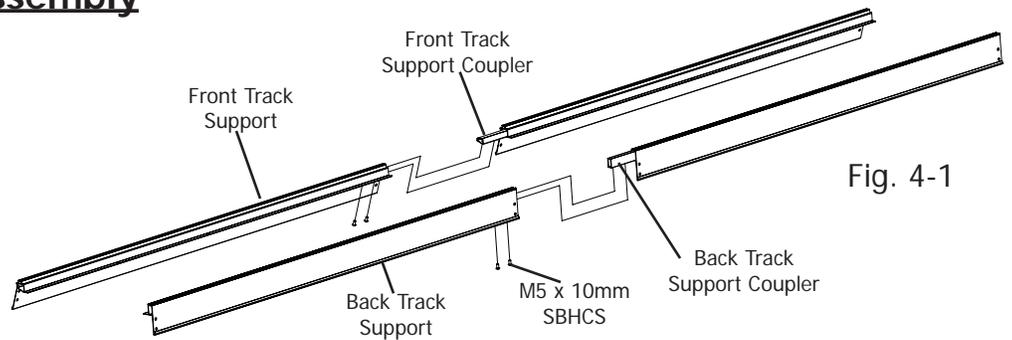
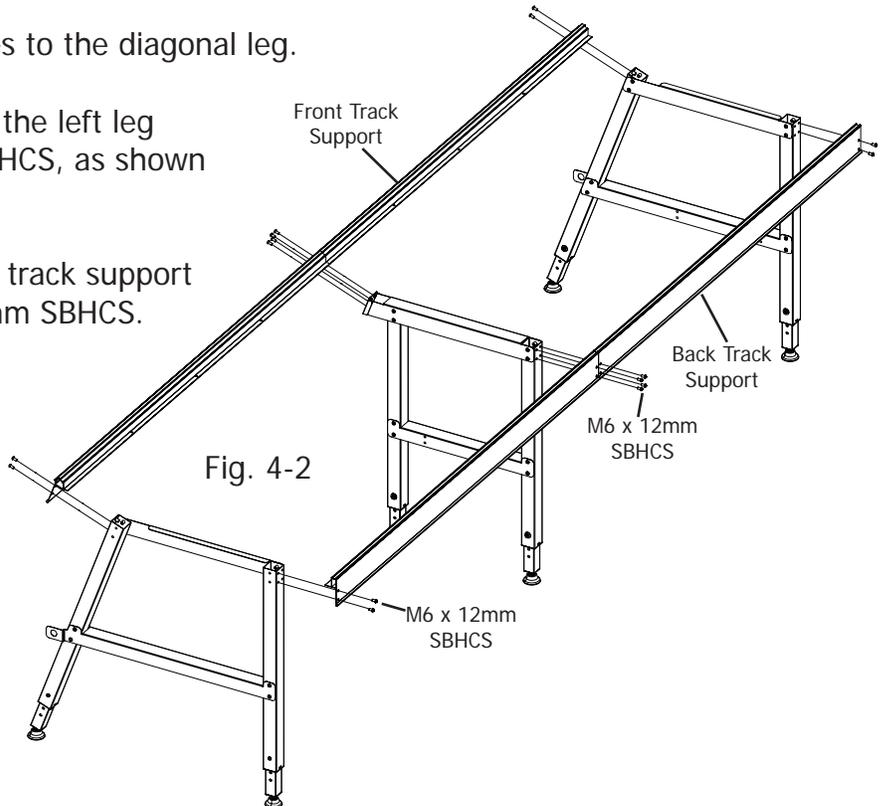

Fig. 4-1
Fig. 4-2
- ⚙️ **4-2:** Slide the front track support coupler into the end of one track support with the two holes near the end. Tighten two (2) M5 x 10mm SBHCS into the coupler through the track support, as shown in Fig. 4-1.
- ⚙️ **4-3:** Slide the other front track support onto the coupler and tighten two (2) M5 x 10mm SBHCS into the coupler through the track support.
- ⚙️ **4-5:** Attach the front track support to the left leg assembly with two (2) M6 x 12mm SBHCS, as shown in Fig. 4-2.
- ⚙️ **4-6:** Attach the other end of the front track support to the right leg with two (2) M6 x 12mm SBHCS.
- ⚙️ **4-7:** Tighten four (4) M6 x 12mm SBHCS, through the front track support and into the middle leg.